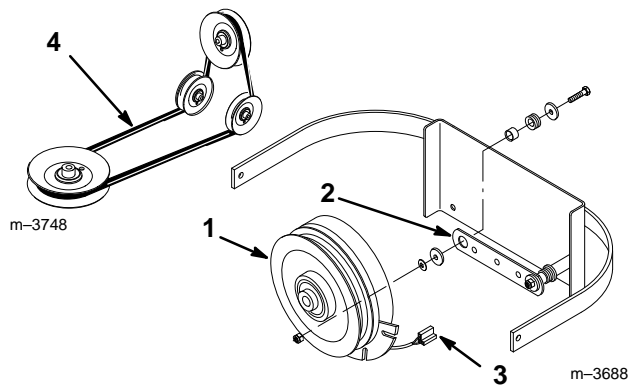

Figure 49
2. Remove the clutch retaining strap and unplug clutch terminal from wire harness (Fig. 49).
4. Install clutch retaining strap and plug clutch terminal into main wire harness (Fig. 49).